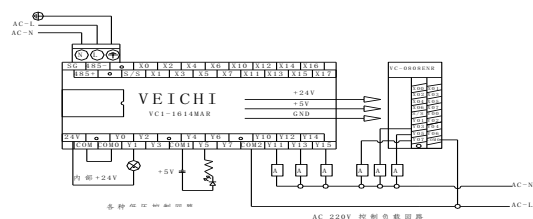

Figure 4-1 Example of the electrical connection between VC1-1614MAR and VC-0808ENR
Figure 4-1 shows how the main module VC1-1614MAR and the extension module VC-0808ENR are connected. Different output groups can be connected to different signal voltage circuits. Some output groups (e.g. Y1-COM0) can be connected to the 24Vdc circuit and powered by 24V/COM of this controller; some output groups (e.g. Y5-COM1) can be connected to the 5Vdc low voltage signal circuit; while other output groups (e.g. Y11, Y13, Y15, etc.) can be connected in the 220Vac AC voltage signal circuit. That is, different output groups can work on different voltage circuits.
1. Check that the analogue input/output wiring meets the requirements (see Figure 3-1 and Figure 4-1 for wiring instructions).